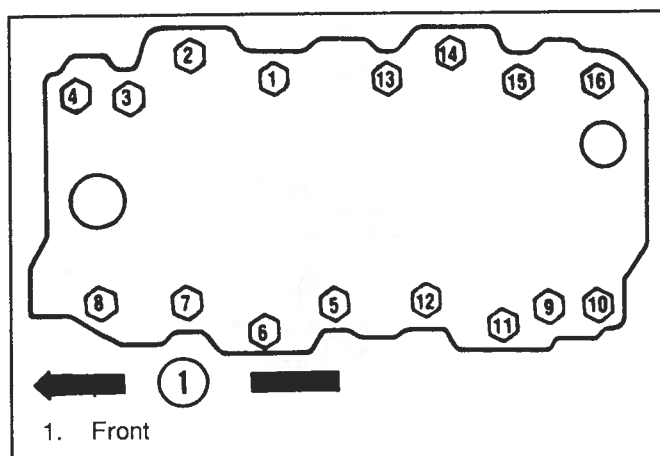

Figure 8-195. Intake-Manifold-Tightening Sequence
- Carefully install manifold assembly and torque bolts in sequence displayed in Figure 8-195 to specifications.